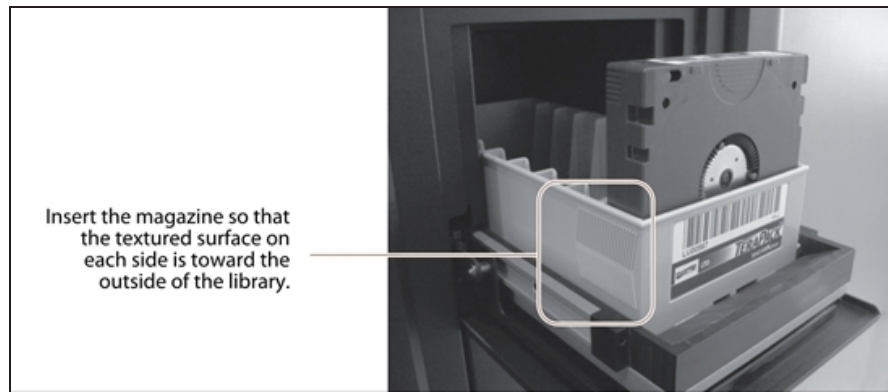

Figure 72 Insert a magazine into the TAP, making sure that it is correctly oriented.
3. Insert the magazine into the tray on the open TAP with the textured surface side toward the outside of the library, as shown in Figure 72 on page 132.
4. Click **Open TAP** to access the exported magazine. Exchange the magazine or any desired media in the TAP then click **Close TAP**. If you exchange a magazine, make sure the new magazine is oriented correctly (see Figure 72 on page 132).